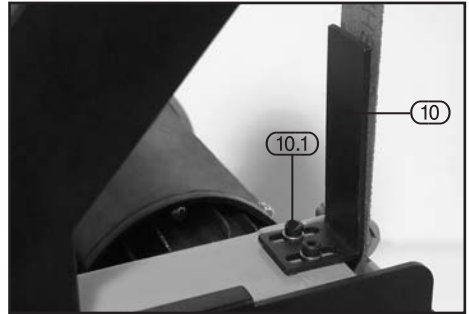

FIG.3
8.2 PLATEN ADJUSTMENT - FIG. 3